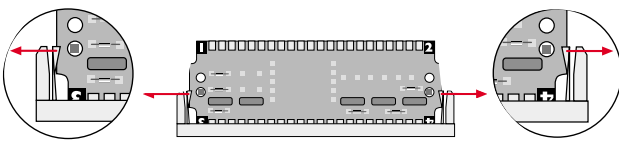

Fig. 8
1. Unlock the catches left and right on the base of the card (Fig. 8).